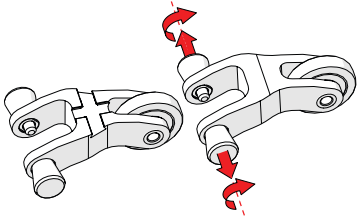

Fig. 51 - Pull out and twist pins
1. Pull the pins out from the wheels, twist a quarter turn latching the pins in a retracted state (Fig. 51).